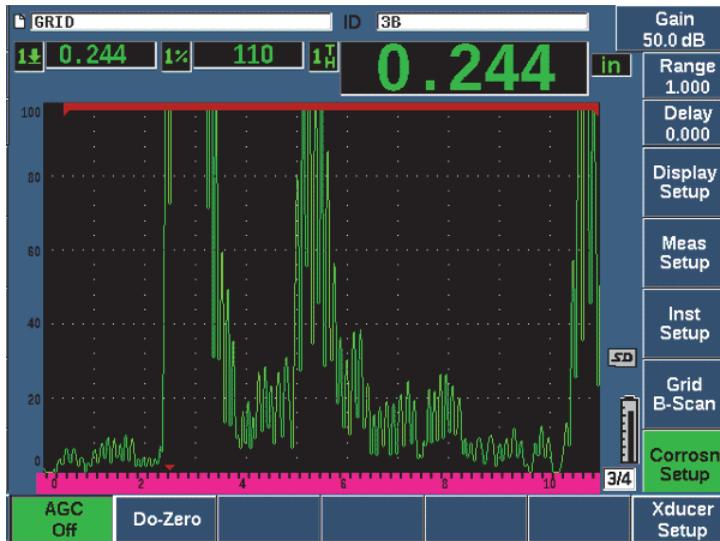

Figure 11-40 Corrosion Module AGC set to Off
- Use the knob or arrow keys to set **AGC** to **Off** (see Figure 11-40 on page 282).
- Press dB and press a parameter key (P1–P7) to set a gain range, then use the knob or arrow keys to adjust the gain value (see Figure 11-40 on page 282).